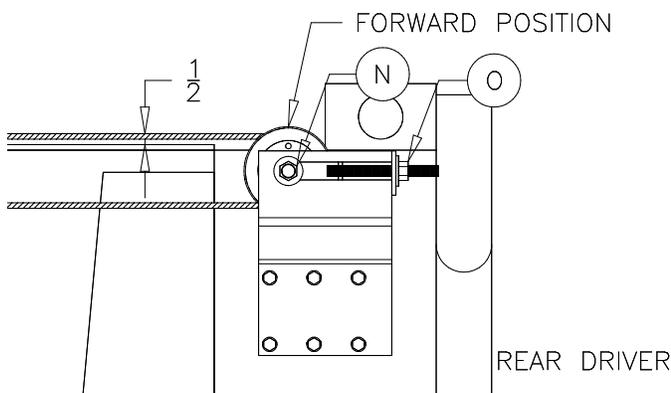

Figure 13
**Procedure:** Loosen the 3/4" pulley hex nut (N) 1/2 a turn. Tighten the 1/2" nut (O) so the cable cannot easily touch together when squeezing with one hand 18" from the rear pulley. Retighten the 3/4" pulley hex nut (N) (see Figure 13).